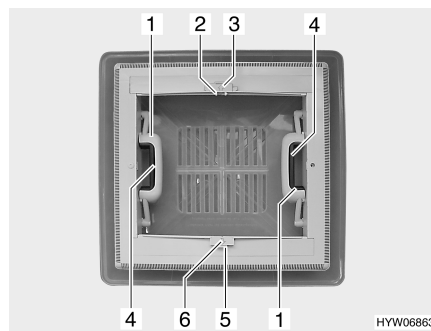

Fig. 19 Skylight with snap latch
**Opening:** ■ Push the spring-loaded latch (Fig. 19,4) towards the inside of the skylight. At the same time use the handle (Fig. 19,1) to press the skylight upwards.
**Closing:** ■ Using both handles (Fig. 19,1), pull down the skylight with force until the two snap latches lock into place.
**Closing:** ■ Push the locking mechanism (Fig. 19,5) towards the outside of the skylight.
■ Pull blind at the handle (Fig. 19,6) to the opposite handle of the insect screen (Fig. 19,2) and allow to engage.
**Opening:** ■ Clench the handle (Fig. 19,2). The latch is released.
■ Use the handle (Fig. 19,6) to move the blind slowly back to its initial position.
**Closing:** ■ Push the locking mechanism (Fig. 19,3) towards the outside of the skylight.
■ Pull insect screen at the handle (Fig. 19,2) to the opposite handle of the blind (Fig. 19,6) and allow to engage.
■ Use the handle (Fig. 19,2) to slowly move back the insect screen.